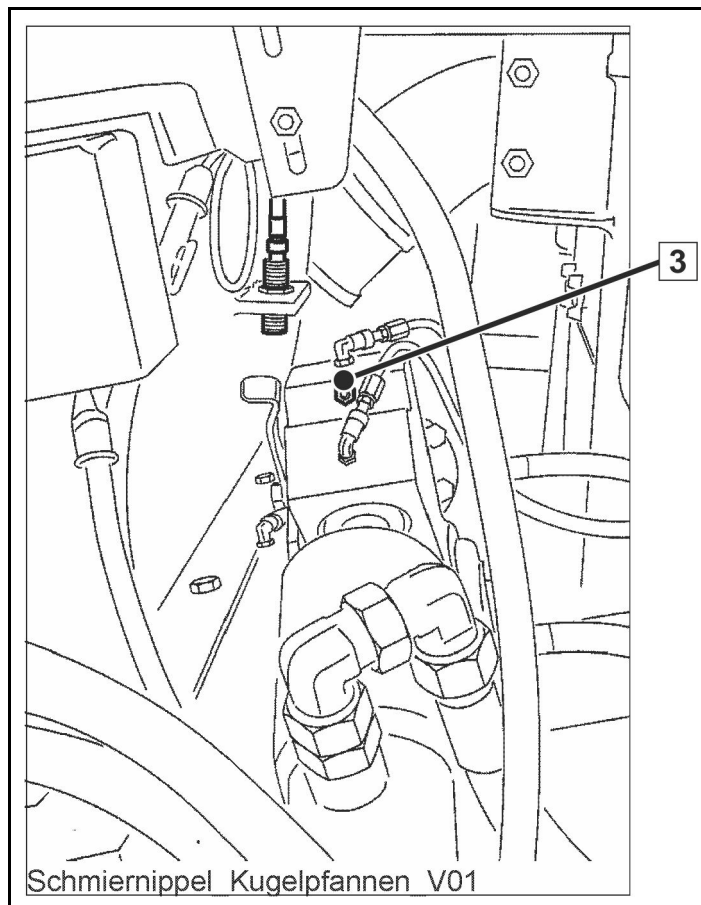

Fig. 167
The additional grease nipples, e.g. (1) (**Fig. 167**) do not have to be lubricated!